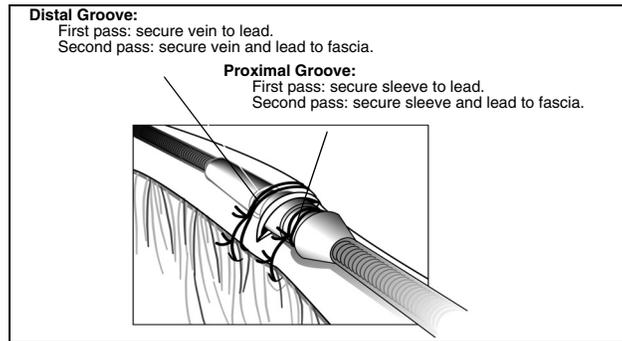

Figure 13. Using the sleeve with the venous cutdown technique.
1. Peel back the introducer sheath and slide the suture sleeve deep into the tissue (Figure 13).
1. Slide the suture sleeve into the vein past the distal pre-formed groove. Ligate the vein around the suture sleeve to obtain hemostasis. Next, using the same groove, secure the lead and vein to the adjacent fascia (Figure 13).